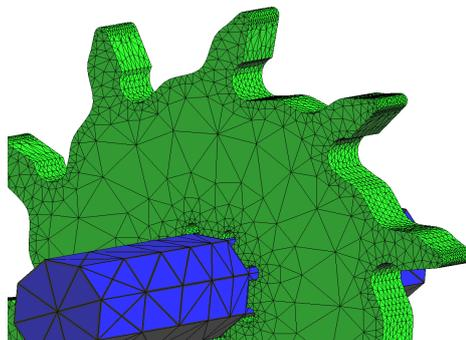

Figure 47. A detail of the mesh generated using Chordal Error
- 4 . A greatly improved approximation has been achieved in zones containing curves and, more specifically, along the wheel profile and the profile of the hole (see Figure 47).